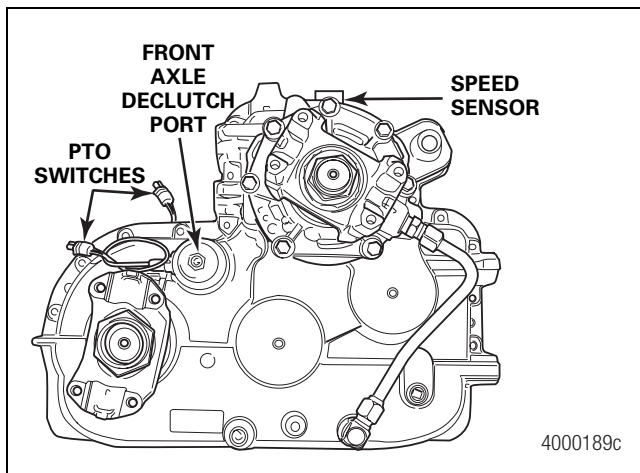

Figure 6.29
15. If removed, install the speed sensor into the top of the transfer case. Figure 6.29. Fasten with a capscrew and washer.
1. Apply 60 psi (4.14 bar) or greater of air pressure to the front axle declutch. Figure 6.29.